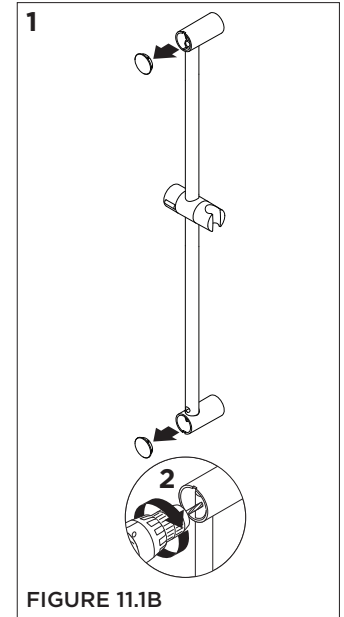

FIGURE 11.1B
**Note:** Slide bar holes and bracket holes must be aligned before drilling. Before drilling bottom hole, make sure slide bar is plumb (FIGURE 11.1B).